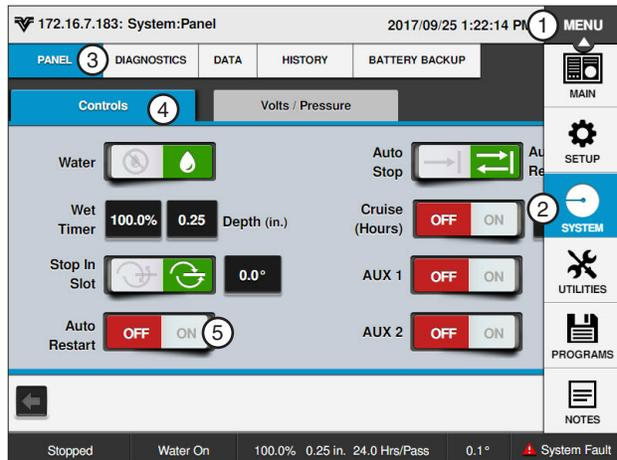

Figure 20-1 1. Menu 2. System 3. Panel 4. Controls 5. Auto Restart On
1. Push **Menu**, **System**, **Panel** and **Controls**. Refer to Figure 20-1.